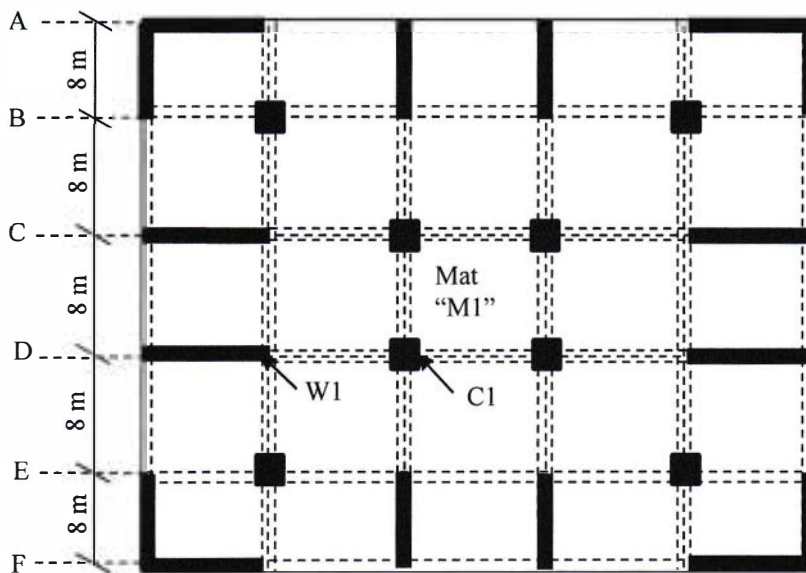

Figure 2: Column and wall layout plan
- a. An architectural plan of a 30 storeyed office building (2.4 kN/m^2) will be finalized based on the frame wall structural system as shown in **Figure 2**. The spacing of column / wall grid line is 8 m c/c. All columns and walls are connected by 200 mm x 600 mm floor beams. The structure is critical for wind load, the average wind pressure at Dhaka city on wall of the structure could be assumed as 3 kN/m^2 . The thickness of slab could be assumed as 200 mm and random wall load is 2 kN/m^2 . Analyze the frame of **grid D** using portal method due to wind load to obtain maximum bending moment and shear force of shear wall **W1** and column **C1** as shown in **Figure 2**. Also apply approximate method to obtain axial load (at ground floor) due to gravity load of shear wall **W1** and column **C1** as shown in **Figure 2**. The floor height could be assumed as 3.3 m. Assume required data to analyze. [10 marks]
- a. The column C1 as shown in Figure 2 is supported by pile foundation. The capacity of 800 mm diameter bore pile is 1600 kN. Design the pile cap. The size of column could be assumed as 800 mm x 800 mm. Assume required data to design. [10 marks]
- b. If the foundation of the structure is constructed with mat with pile, design the column strip of mat M1 (8 m x 8 m) as shown in Figure 2. Assume that the loads of piles would be uniformly distributed on mat. The size of column could be assumed as 800 mm x 800 mm. Assume required data to design. [10 marks]